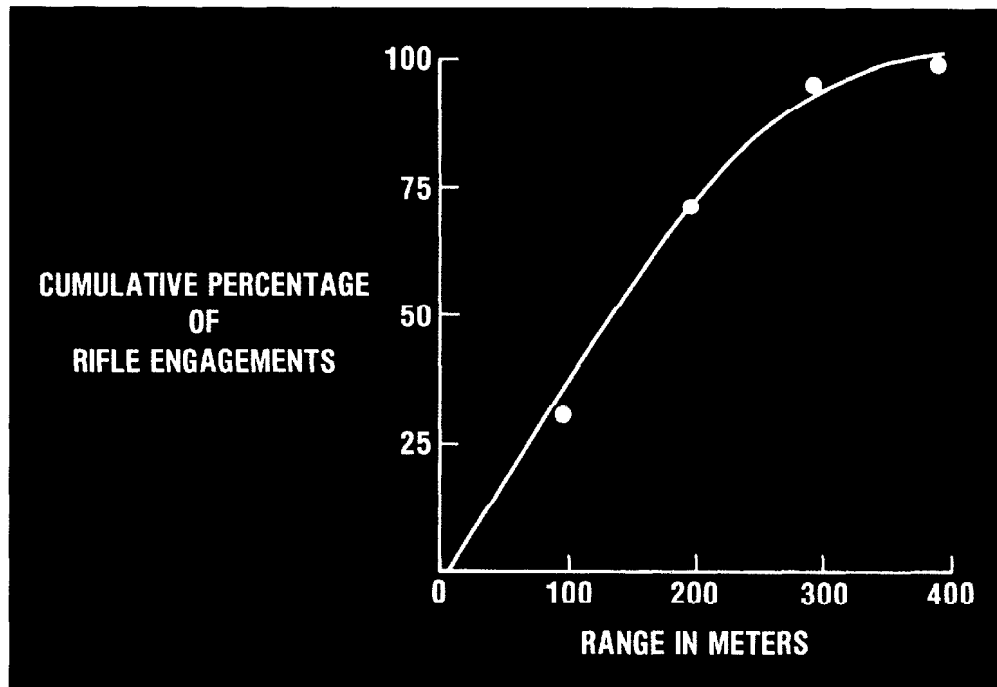

Fig. 1-10. The tactical distances for representative small-arms actions fought by American troops during and since World War II
**Fully Automatic Rifle (Assault Rifle).** The next step in the development of the soldier's individual weapon was the fully automatic rifle, but its design required ammunition that was intermediate in power between the old full-power round of the Gewehr 98 and the pistol ammunition used by the submachine gun. Gewehr 98 ammunition **could not be used** because—when even a single round was fired—its recoil was so violent that the weapon was difficult to control; **when used as a fully automatic weapon, only the first shot was likely to be accurate.** Nor was such power really necessary. As was the case in World War I, most ground actions involving small arms still tend to occur at distances of 200 m or less under most combat conditions (Figure 1-10).5,6